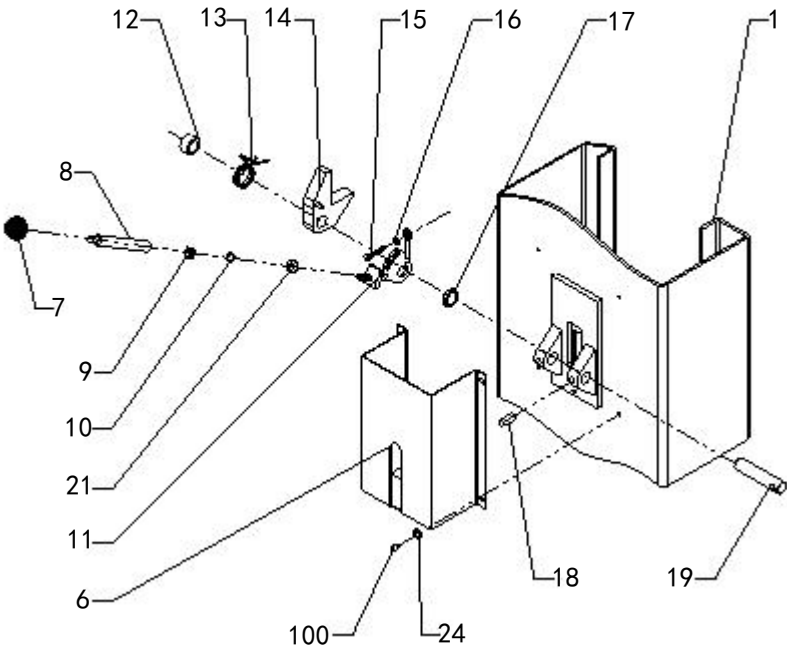
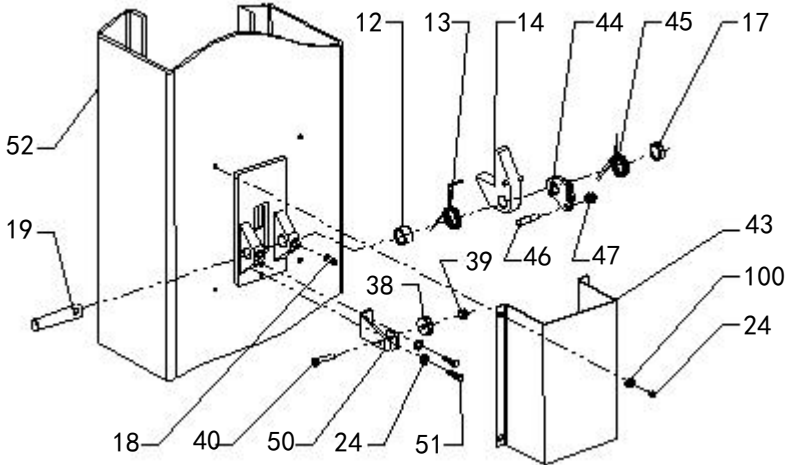

Fig. 24 Power-side safety device
Fig. 25 Off-side safety device
J. Install safety device (See Fig. 24 & Fig. 25).